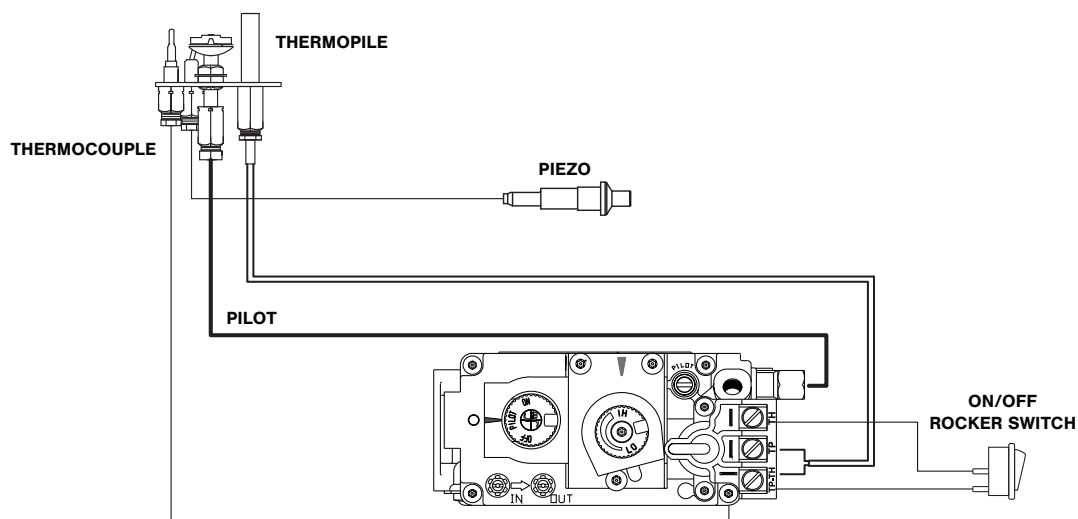

Figure 9.3, Millivolt Gas Valve Wiring Schematic with ON/OFF Rocker Switch
- It is optional to disable rocker switch operating the main burner by disconnecting the wires from the back of the gas valve (Figure 9.3).